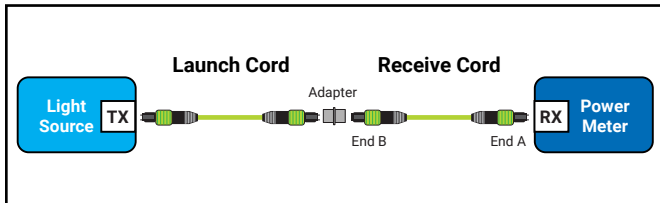

Figure 8c: Reverse receive cord to verify both ends
9. Disconnect the receive cord from the adapter and power meter. Reverse the receive cord so that the end originally connected to the power meter (End B) is now connected to the adapter, and the end originally connected to the adapter (End A) is now connected to the power meter (see Figure 8c).